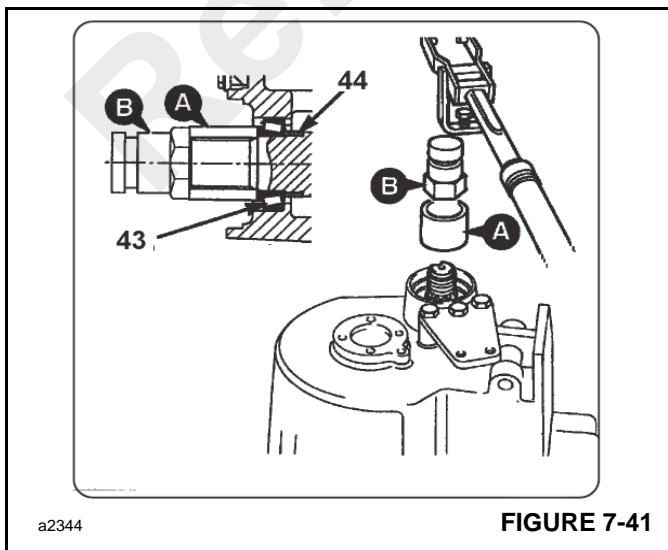

FIGURE 7-41
- d. Remove nut (B, Figure 7-41), sleeve A, outer bearing 46 and install correct size spacer 44. Take care to avoid damaging the outer bearing.
- a. Remove nut B and sleeve A, Figure 7-41. Install a new seal 42 (apply grease between the lips before installation). Assemble the parking brake flange (38) (the flange may be a tight fit).